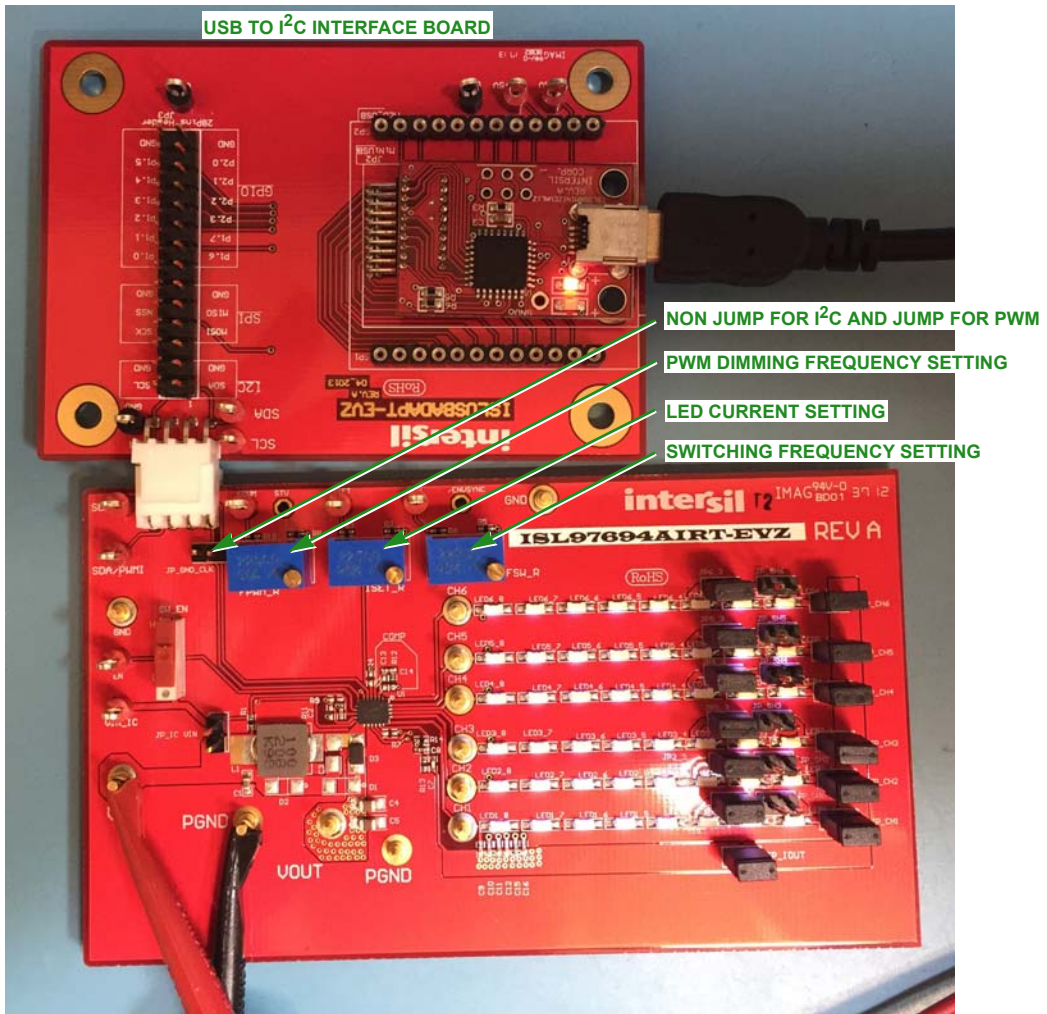

FIGURE 2. PICTURE OF ISL97694AIRT-EVZ EVALUATION BOARD. PICTURE OF ISL97694AIRT-EVZ AND ISLUSBADAPT-EVZ
4. From the power supply, connect the positive terminal from the power supply to the VIN and the negative terminal of the power supply to PGND on the eval board. A voltmeter can be used to sense the voltage at the pin VIN on the eval board in Figure 2.
1. From the power supply, connect the positive terminal from the power supply to the VIN and the negative terminal of the power supply to PGND on the eval board. A voltmeter can be used to sense the voltage at the pin VIN on the evaluation board in Figure 2.